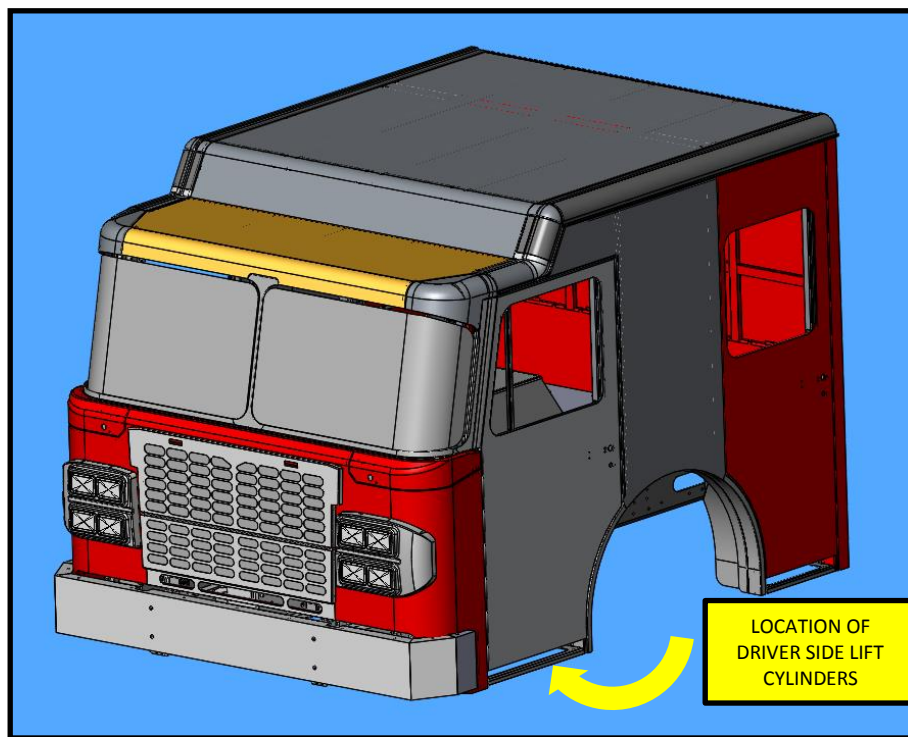

FIG. 2-1
3. Location of the driver side lift cylinder. Refer to FIG 2-1.